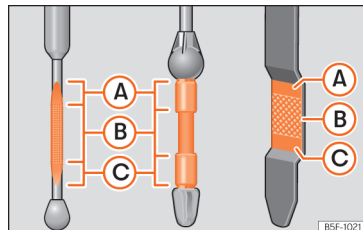

Fig. 176 Engine oil dipstick.
Key to the >>> **Fig. 176**:
- Then pull it out again and check the oil level >>> **Fig. 176**. Top up with engine oil if necessary. The oil should leave a mark between the areas **(A)** and **(C)**. It must never exceed zone **(A)**.
- When the oil level reaches at least zone >>> **Fig. 176 (B)**, carefully screw on the engine oil filler cap >>> **(1)**.